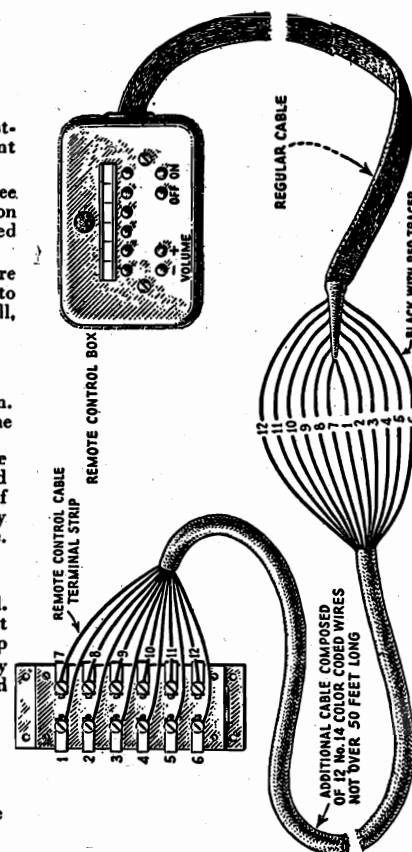

Figure 5
If, however, it is desired to place the remote control box at a greater distance from the set, any twelve conductor cable, the wires of which are No. 14 or larger in size, may be used to splice onto the regular cable and increase the total length up to seventy-five (75) feet. Figure 5 shows the method recommended for adding this additional cable.
(2) INCREASING NUMBER OF REMOTE CONTROL BOXES